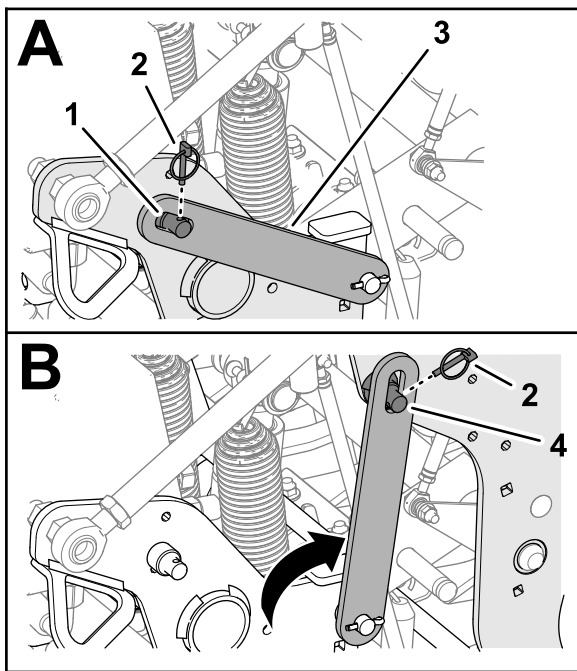

Figure 102
4. Remove the lynch pin securing the service latch to the side plate (Figure 102).